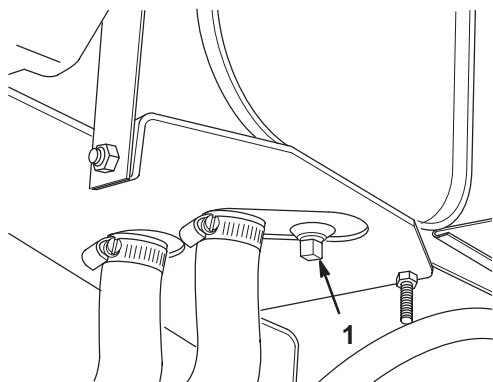

Figure 40
1. Remove the drain plug from the reservoir (Fig. 40) and let hydraulic oil flow into a drain pan. Reinstall and tighten the plug when hydraulic oil stops draining.